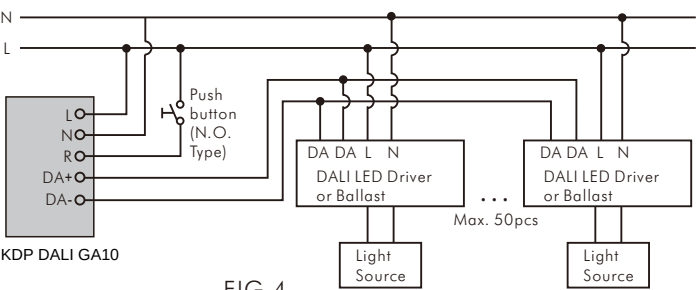
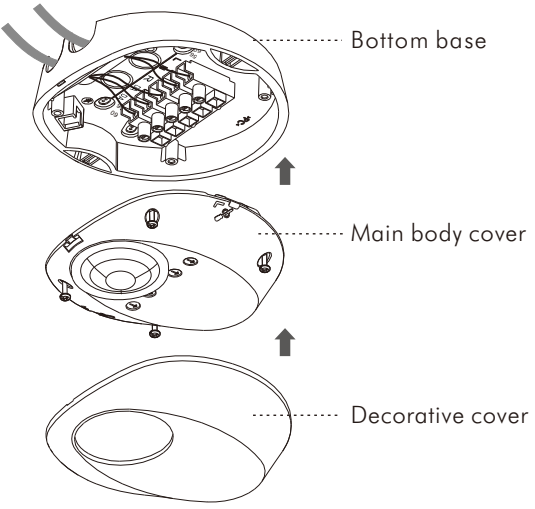

FIG.4
FIG.10
- 3.4.1.6 Refer to the wiring diagrams (See FIG.4) for correct cable connections and refer the FIG.10 to assemble detector with the bottom base.
- 3.4.2.4 Refer to the wiring diagrams (See FIG.4) for correct cable connections and refer the FIG.10 to assemble detector with the bottom base.